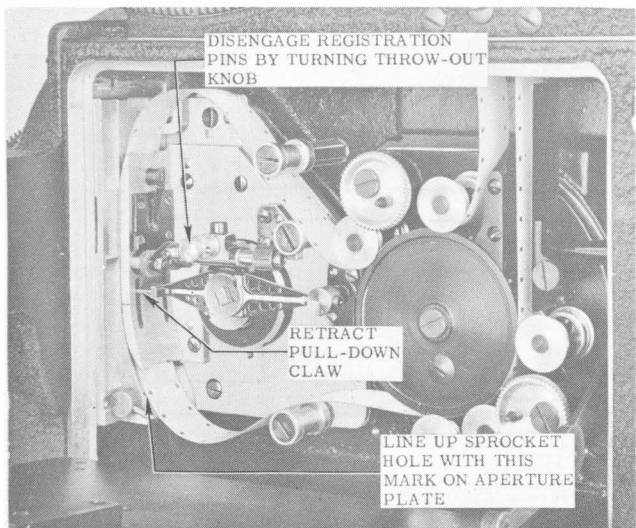

Figure 3-4. Insert Film in Movement
- c. Lay roll to the left of magazine adjacent to front drum. Mount film on front drum spindle so that film feeds off spool from the rear as shown in figure 3-4. This is essential as the emulsion is on inner surface and this side must face lens.
3-20. THREADING CAMERA. (See figures 3-4 and 3-5.) Threading film in camera is done without cutting film. This makes it possible to change quickly from one stock to another. To thread camera, proceed as follows:
- h. Extend film loop from magazine by pulling film from feed drum so sufficient loop will be obtained to thread film as shown in figure 3-4. Be careful not to pull film from take-up drum. When extending loop, place film in film groove between aperture plate and register plate, and over idler rollers.